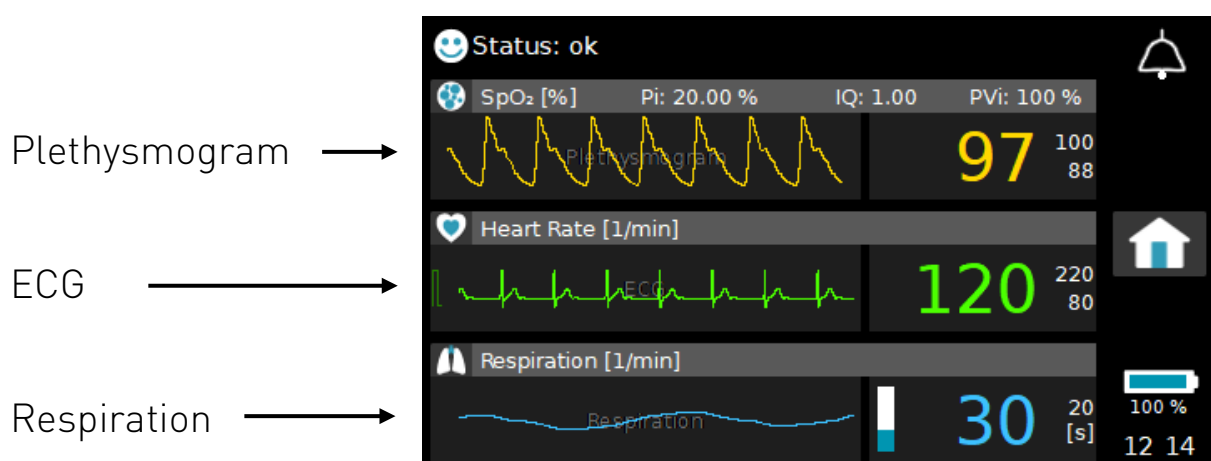

Fig. 45 View 2 Screen Content
**View 2** shown in Fig. 45 differs from **View 1** in that the quality indicators described in section 3.4.6 for the **SpO2**, **Heart Rate/Pulse Rate** and **Respiration** workspaces are replaced by their corresponding waveforms: